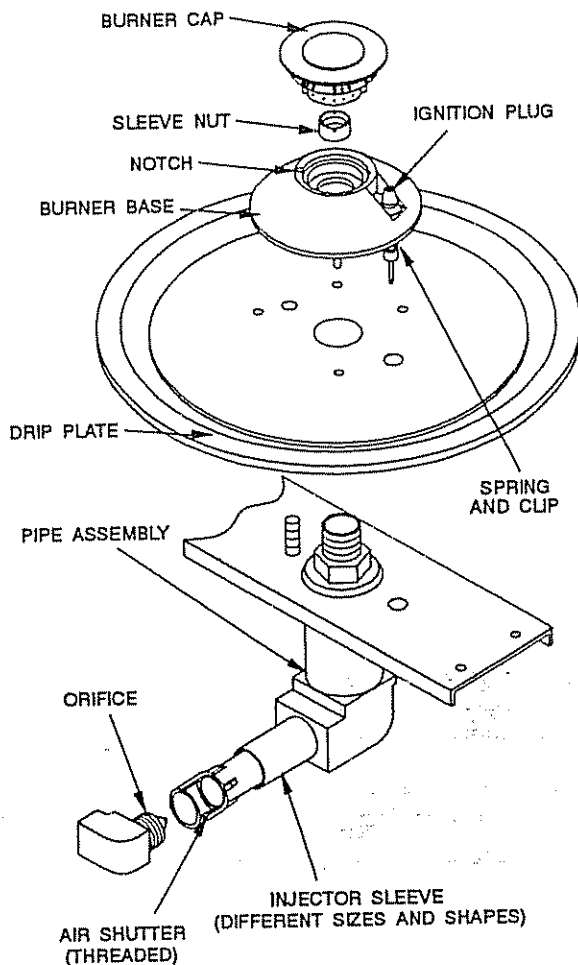

Figure 9. Burner Assembly
4. Pull the pipe assembly slowly toward the rear of range until the pipe clears the injector sleeve and lift out. See Figure 9.